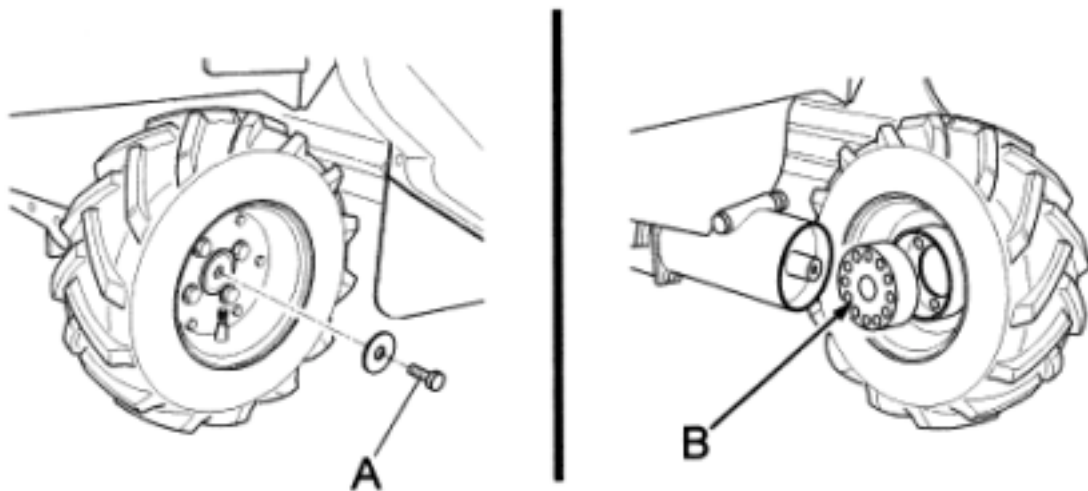

Fig. 16
- Every 50 hours grease the wheel release devices, removing the centre screw shown in fig. 16 (ref. A). Remove the wheel completely from its hub, grease the exposed part (fig. 16, ref. B) and then remount the wheel.